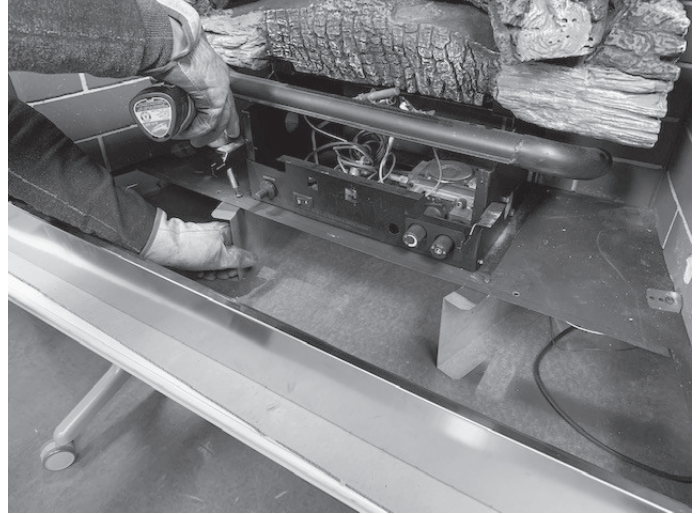

Figure 8.6
3. Rotate the right and left firebox support towards the center until screw holes align and reinstall (2) screws previously removed. See Figure 8.6.